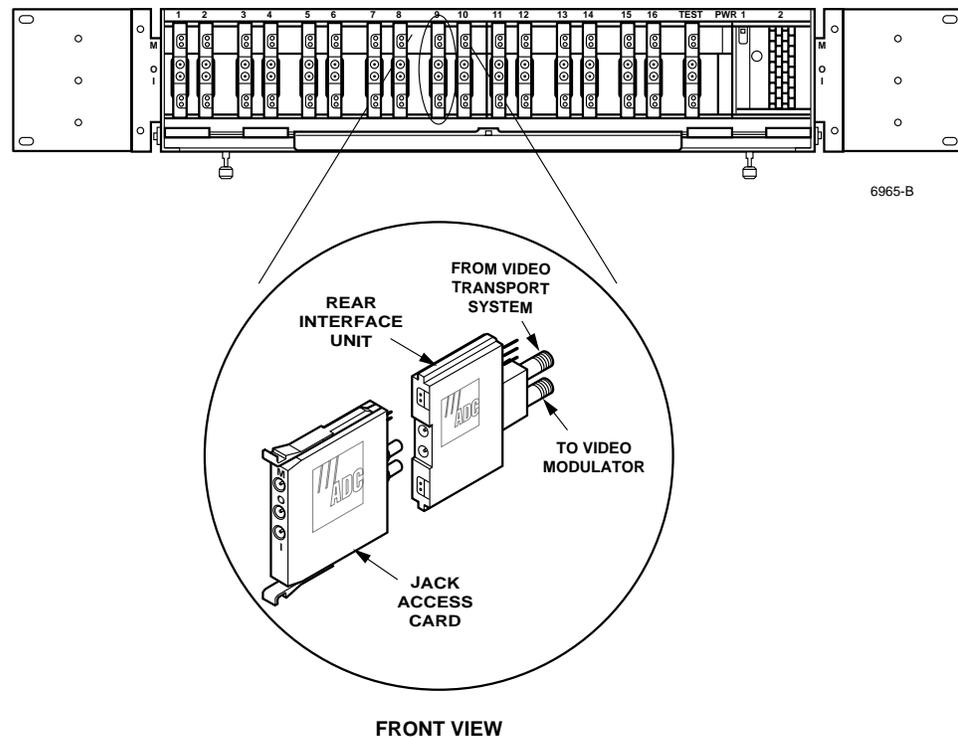

Figure 1. Jack Access Card and Rear Interface Unit
PWR-AVIS provides centralized access for testing, monitoring, patching, or amplification of digital, analog video, or baseband signals. Circuits are accessed via little coaxial jacks (LCJ) mounted on jack access cards. A variety of active and passive jack access cards provide various amplification and monitoring levels. The jack access card mates with a rear interface unit (RIU) that is mounted in the chassis. A rear interface unit provides the interface for permanent coaxial connections (F or BNC) to network elements (NE) (see Figure 1).